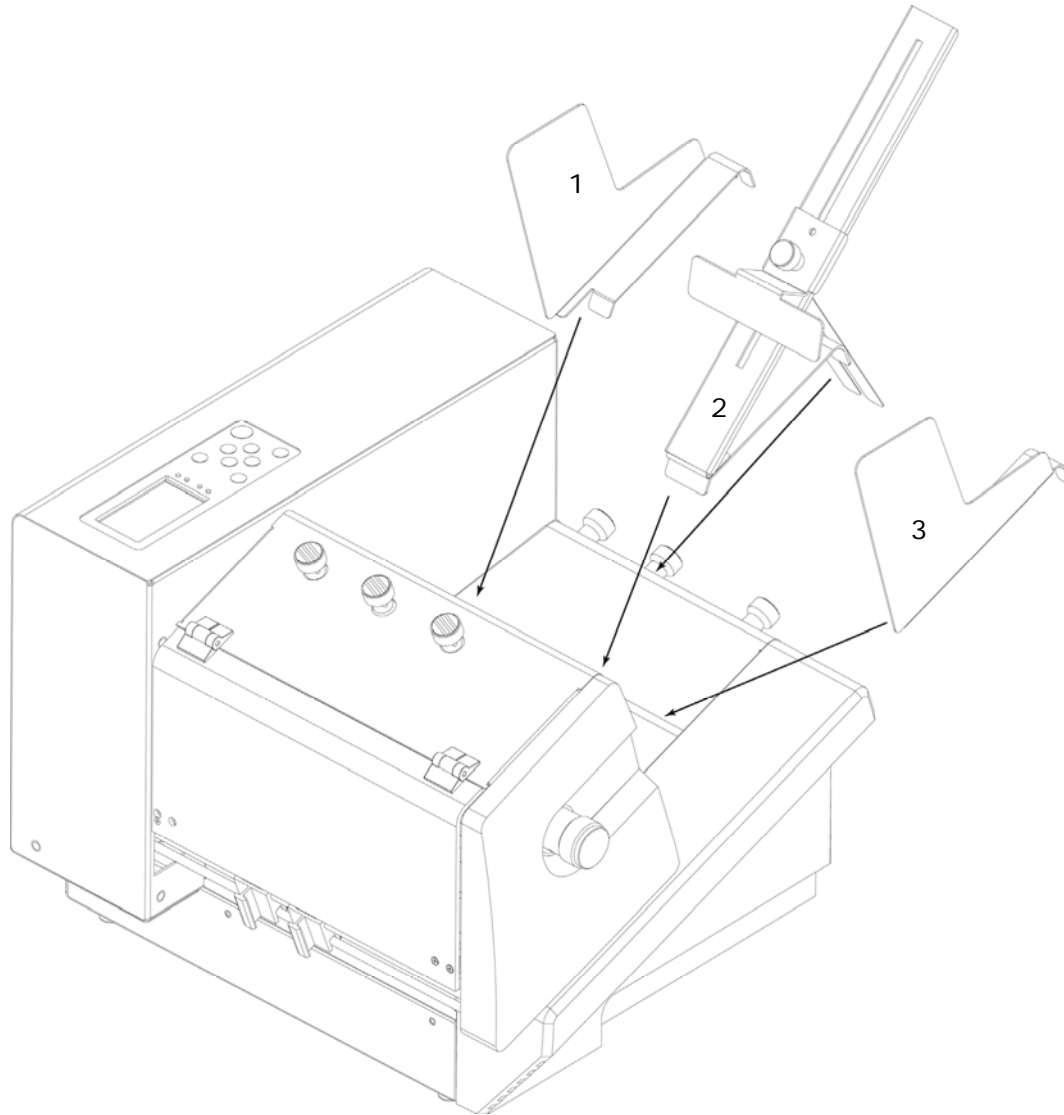

Figure 4: Mounting I
- Mount the narrow paper side guide (inside) (1). Then mount the paper feed ramp (2) and either the narrow paper side guide (outside) (3) or the large (outside) one (not shown in Figure 4).